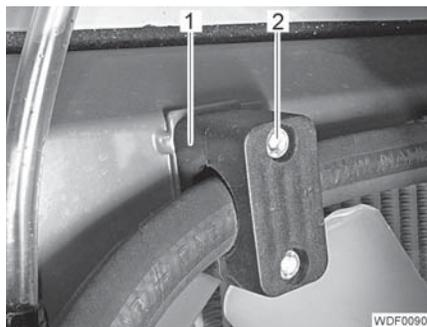

Fig. 80 Hydraulic line attachment
- Place the attachment (Fig. 80,1) into position.
- Screw in and tighten the 2 screws (Fig. 80,2).